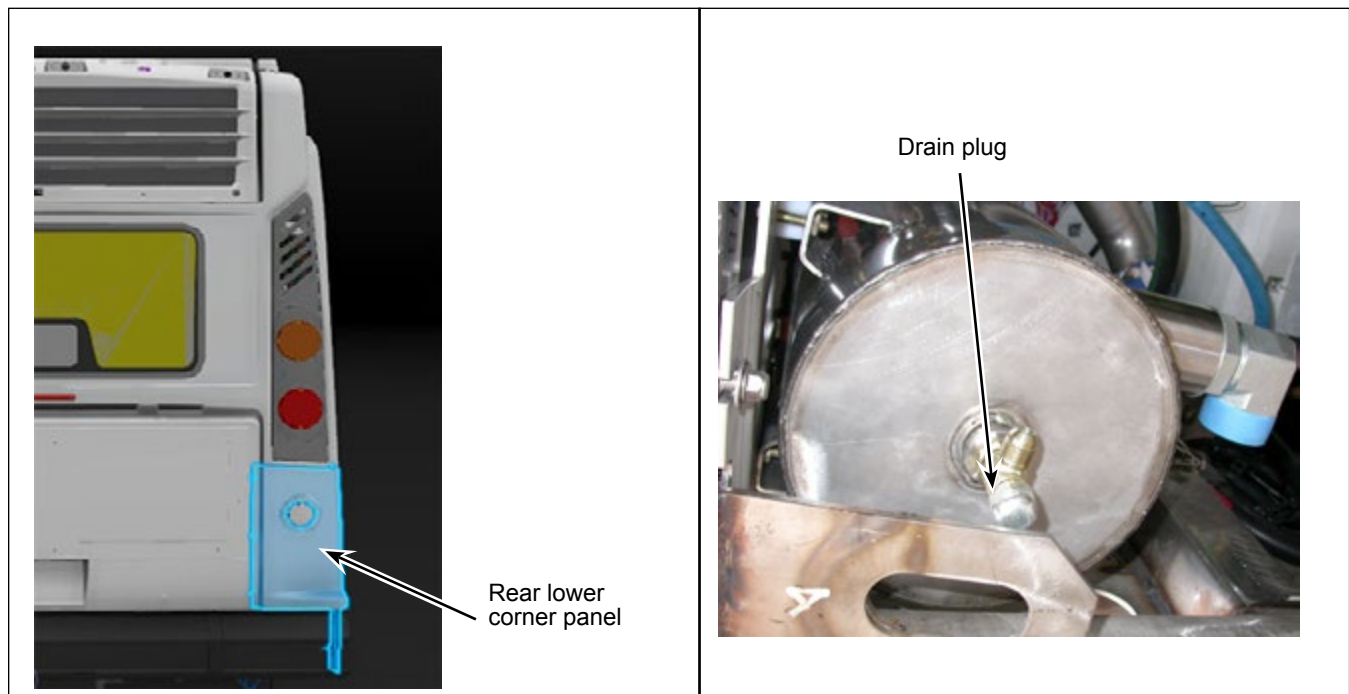

Figure 1 - Rear Right Corner Panel and Hydraulic Tank Drain Plug
- 1.1. Remove the right rear lower corner panel from the vehicle. Retain the panel and hardware. See Figure 1.
- 1.3. Remove the drain plug at the bottom of the hydraulic tank. Clean and retain the drain plug. See Figure 1.
- 1.5. Install the clean drain plug at the bottom of the hydraulic tank. See Figure 1.